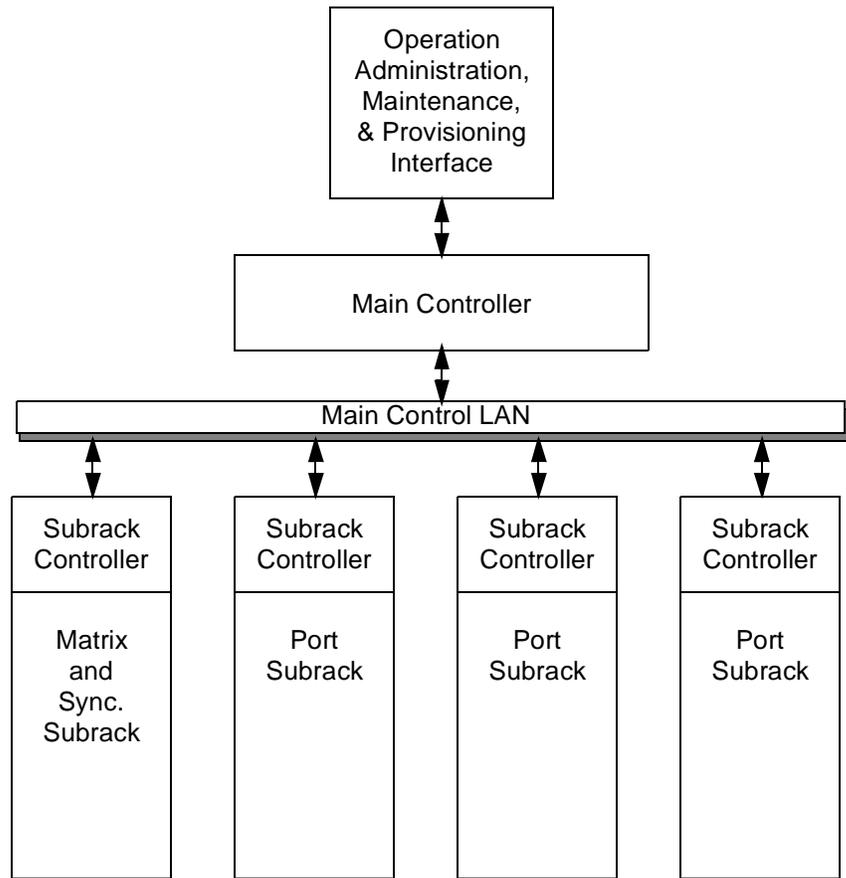

Figure 3-2. *WaveStar*™ DACS 4/4/1 System Control Structure
- *Main controller:* provides local and remote interfaces for operations, administration, maintenance, and provisioning. The main controller accepts commands from this interface and translates them into equipment level instructions that are sent to the subrack controllers (see Figure 3-2).